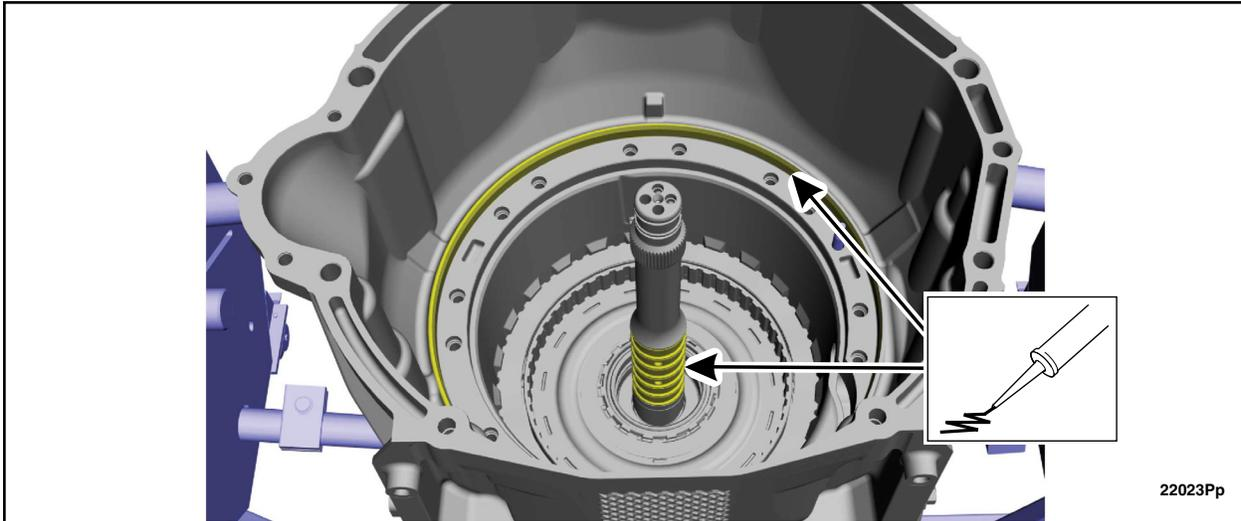

FIGURE 51
60. Lubricate the transmission case-to-front support sealing surface, and the Teflon seals with petroleum jelly. See Figure 51.